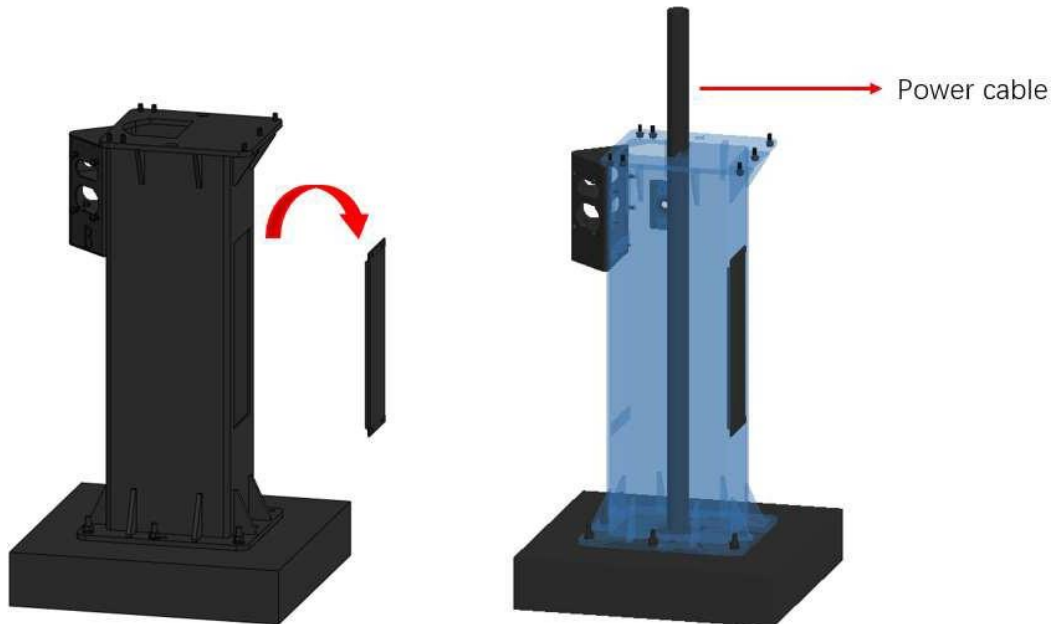

Figure 31 Cable incoming diagram
(2) Remove the mounting plate behind the pole, and insert the power cable from the foundation into the pole through the hole at the pole bottom, then insert the cable through the hole at the upper part of the pole, as shown in Figure 31.